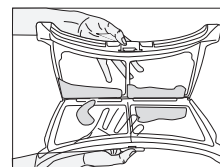

Fig7
- 3.Clean lint,fibre,and cotton raveling by hand or with a soft piece of cloth(Fig7,8).